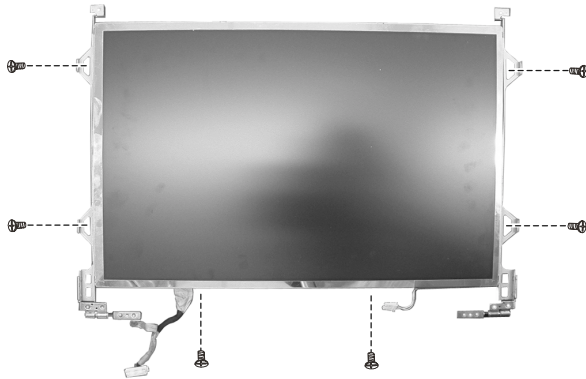

Figure 2-26 Remove six screws
5. Remove six screws that secure the LCD bracket. (Figure 2-26)